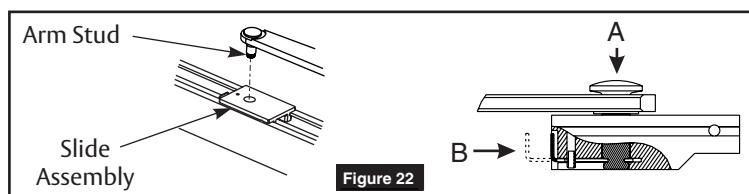

Figure 22
- Insert stud on arm into slider in track by pressing clip on backside of slider onto stud. (Figure 22)